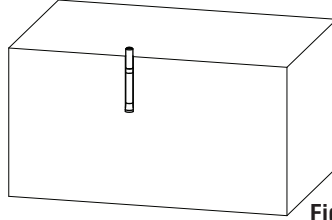

Fig. 4
1.b) Hammer in and set anchor in four hole locations. See Fig. 4.